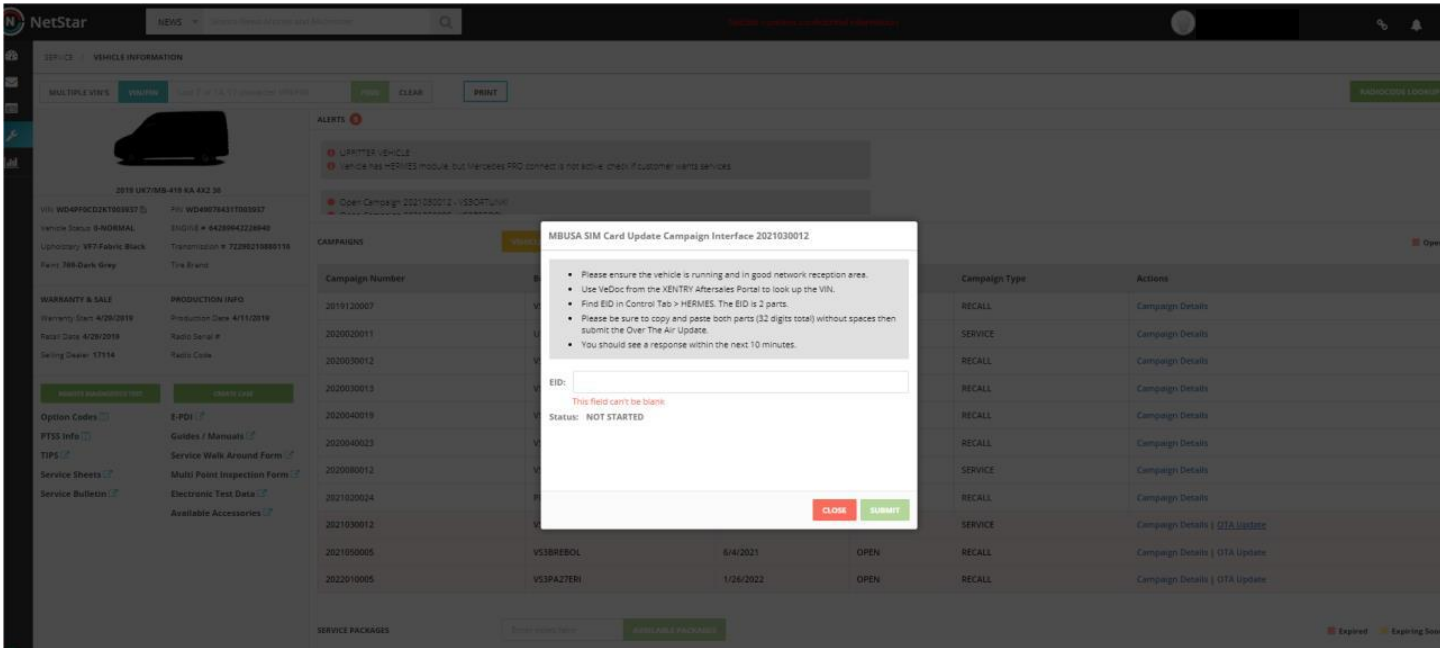

Figure 6
**i** A pop-up window requesting an EID number for the OTA update will appear (Figure 6).